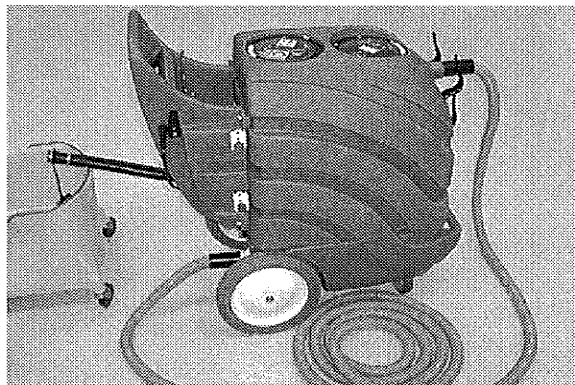

FIG. 30
2. Remove drain hose knob, direct hose into elevated drain site and activate blower (Figure 30).